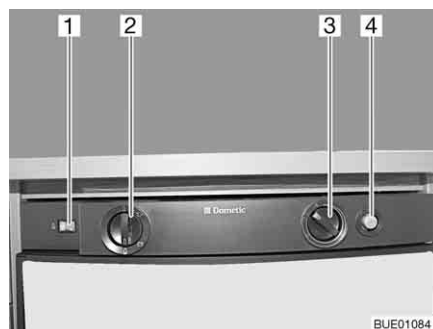

Fig. 137 Operating controls for the
- Set the energy selector switch (Fig. 137,2) to "🔥".
- Press the control knob (Fig. 137,3), turn it to the highest level and hold it down. Wait until gas gets into the burner.
- Press the gas ignition button (Fig. 137,4) and keep it pressed. Ignition will take place automatically.
- Keep gas ignition button (Fig. 137,4) pressed down until the flame indicator (Fig. 137,1) becomes green and then release it.
- Keep the control knob (Fig. 137,3) pressed for another 10 to 15 seconds, then release it.
- Set the energy selector switch (Fig. 137,2) to "⏻".
- Use the control knob (Fig. 137,3) to adjust the refrigerating temperature.